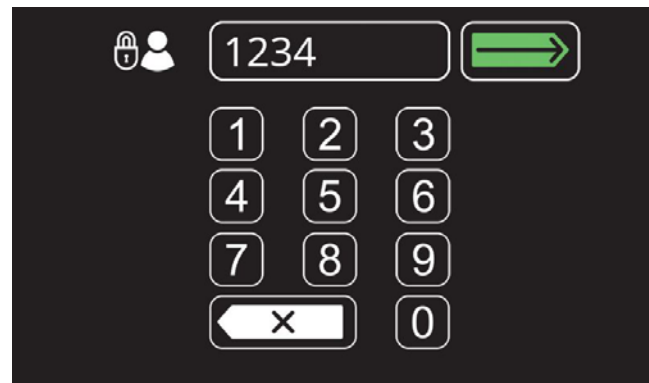

FIG. 155
3. First time use - Enter the factory-assigned supervisor mode login code "1234" then press the green enter button (Figure 155).